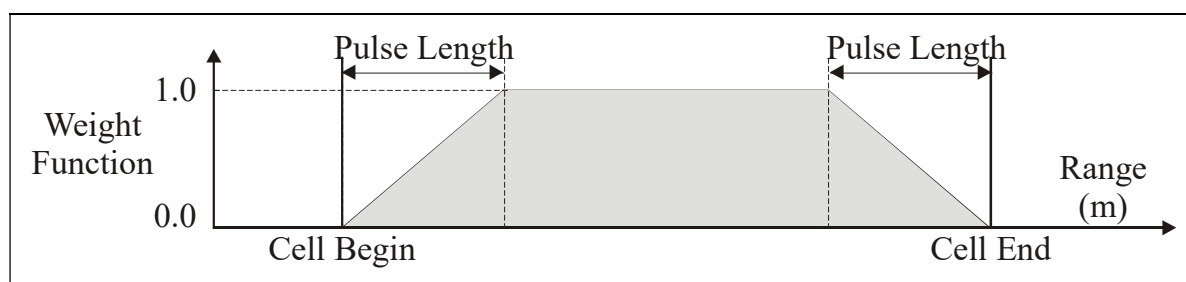

Figure B-5. Argonaut-SL Measurement Volume Weighting Function
- The limits of the measurement volume are determined by user-selected parameters (see §B-9.1 for guidelines). This range is defined by two parameters – *Cell Begin* (CB) and *Cell End* (CE). Both are given in distance from the transducers along the central axis of the instrument.
- The precise weighting within the measurement volume is determined by the convolution of the acoustic pulse with the receive window during which the return signal is sampled. The pulse length is a function of system frequency, as defined in Table B-1. The receive window is based on the settings of CB and CE. The measurement volume weighting function of the SL is shown in Figure B-5.